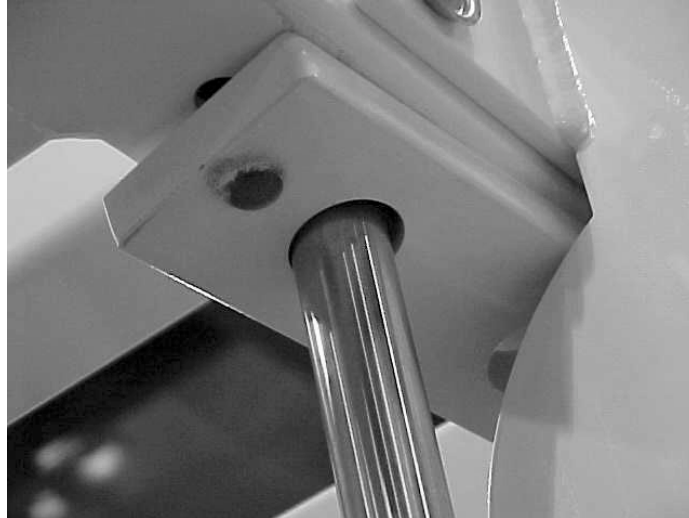

Figure 11. Bolt on the top plate.
- F. **Bolt on the top plate.** With the top plate on the guide rods, bolt on the top plate to the top of the cells as shown in Figure 11 using a 9/16” socket and combination wrench and the 3” bolts (with cap washers) that were previously inserted.